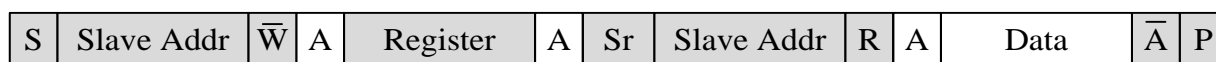

Figure 3-31 Data format(Master reads from Slave)
- Read Data (Figure 3-31)
- 1) Master sends Start condition (S)
- 3) Slave sends ACK (A) response
- 5) Slave sends 1bit ACK (A) response
- 7) Master sends 7bit Slave Address and 1bit Read flag (R) represents as high
- 8) Slave sends 1bit ACK (A) response